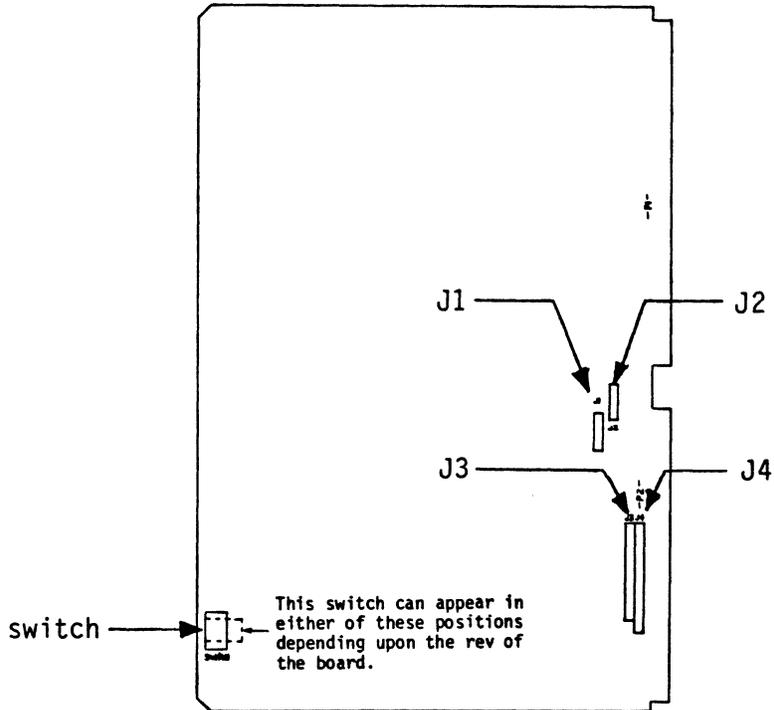

figure 1
4. Refer to figure 1 for the location of the rotary switch and the jumper plugs.